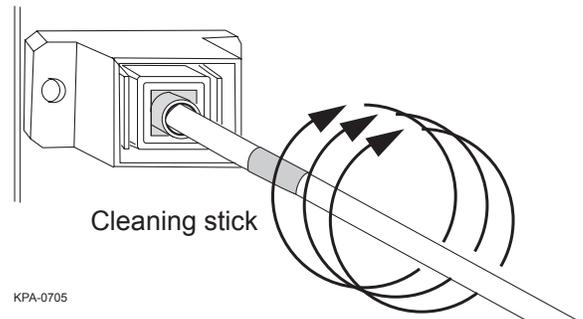

Figure 24
- Step 3:** Clean the adapter and connector end face using a dry process (Figure 24).